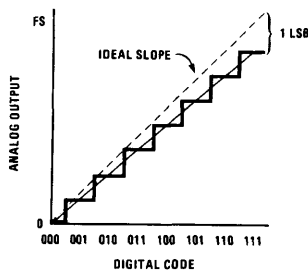

FIGURE 4. Linear, 1 LSB Scale Error
**Scale Error** (full scale error) is the departure from design output voltage of a DAC for a given input code, usually full-scale code. (See *Figure 4*.) In an ADC it is the departure of actual input voltage from design input voltage for a full-scale output code. Scale errors can be caused by errors in reference voltage, ladder resistor values, or amplifier gain, *et. al.* (See **Temperature Coefficient**.) Scale errors may be corrected by adjusting output amplifier gain or reference voltage. If the transfer curve resembles that of *Figure 7*, a scale adjustment at  $\frac{3}{4}$  scale could improve the overall  $\pm$  accuracy compared to an adjustment at full scale.